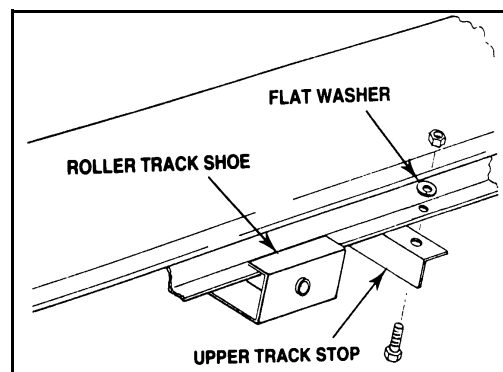

Figure 3.4
2. Attach the upper angle-iron track stop with 7/16" x 1" bolts, heavy flat washers, and locknuts (Figure 3.4). For correct positioning of the upper track stop, see Table 3.1.